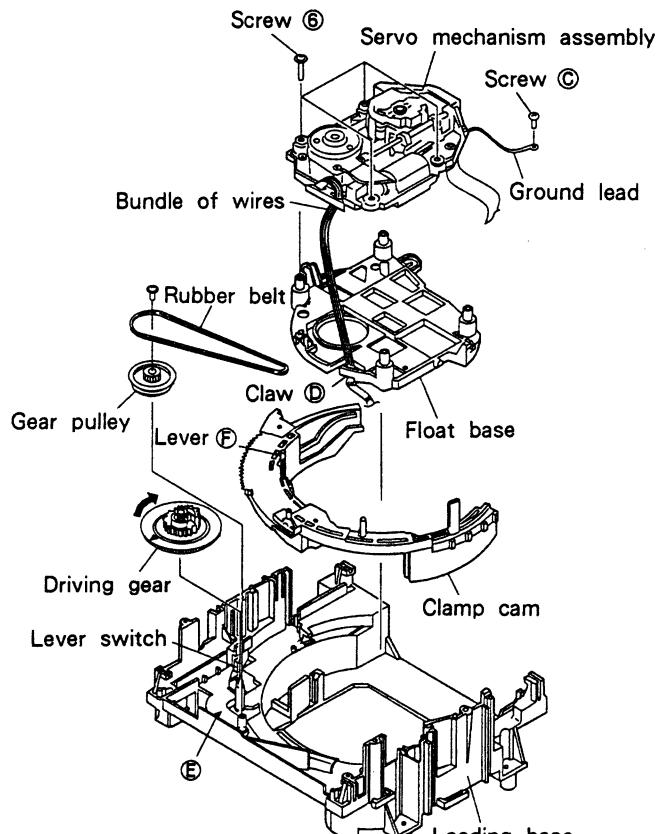

Fig. 2 – 2.
2.3 REMOVING THE FLOAT BASE (See Fig. 2 – 2.)
- ① Remove the servo mechanism assembly. (See 2.2.)
- ② Rotate the driving gear in the clockwise direction fully. The clamp cam will rotate in the counterclockwise direction, and the float base will rise.
- ③ After removing the bundle of wires from claw ① of the float base, remove the float base.